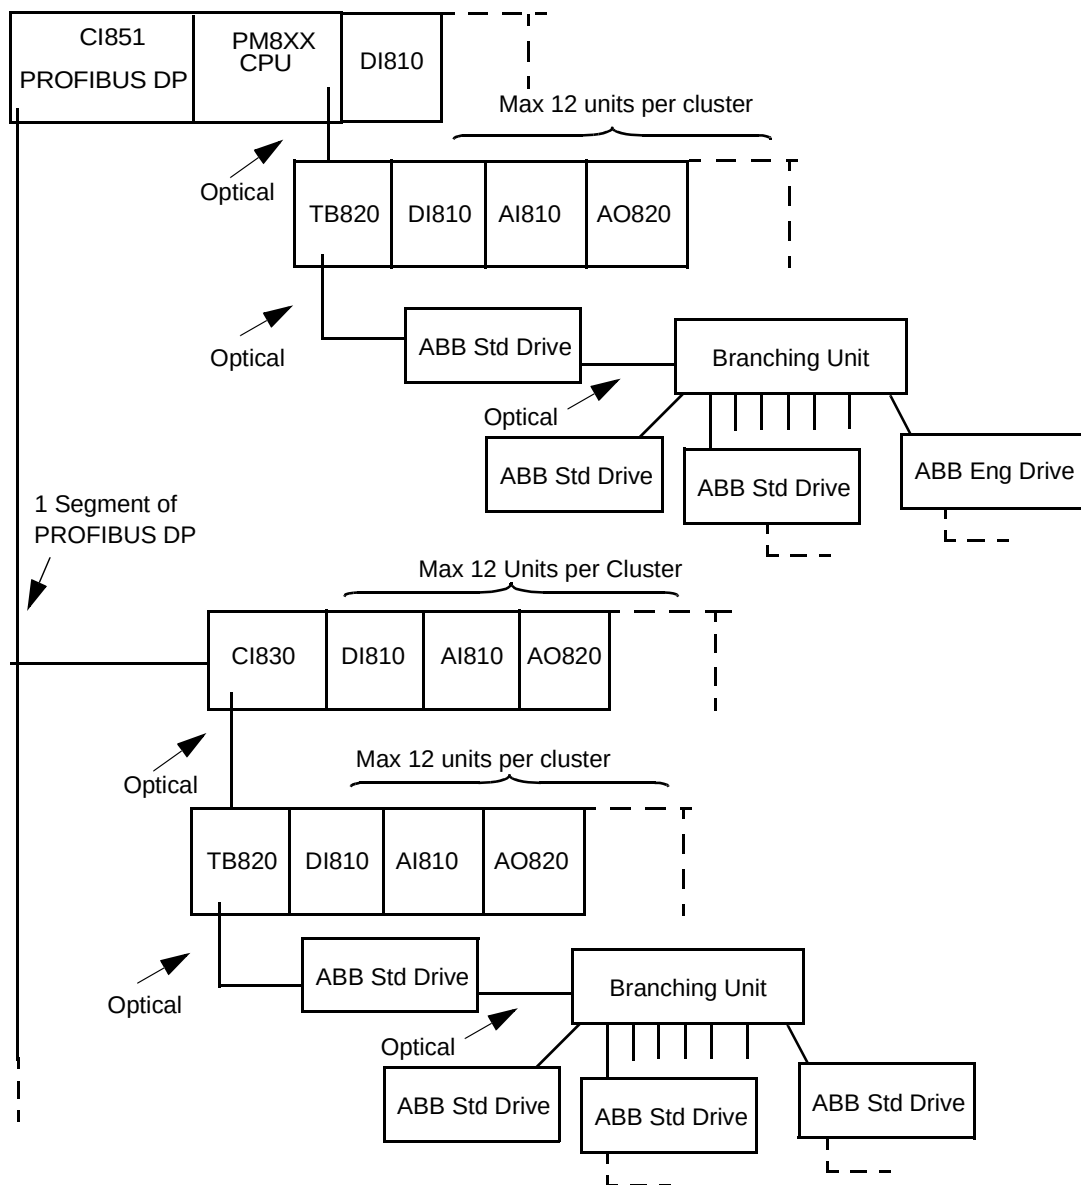

Figure 30. Example of Connection of ABB Drives in Single CPU Configuration
In single CPU configuration, ABB Drives can be connected to the processor unit via the optical ModuleBus. See Figure 30 on page 101. The number of ABB Drives which can be connected to the optical ModuleBus, can be described by the following equation:
In single and redundant CPU configuration, ABB Drives can be connected via PROFIBUS DP and CI830. See Figure 30 on page 101. Only Standard Drives can be connected to CI830. Fourteen (14) Standard Drives can be connected to each CI830 if there are no I/O units connected. For the number of Drives that can be connected to the same CI830, when both I/O units (TB820) and Standard Drives are connected, refer to documentation about FCI for PROFIBUS DP. See Related Documentation on page 17.
For information about Branching Unit (Figure 30 on page 101) see ABB Drive System documentation.